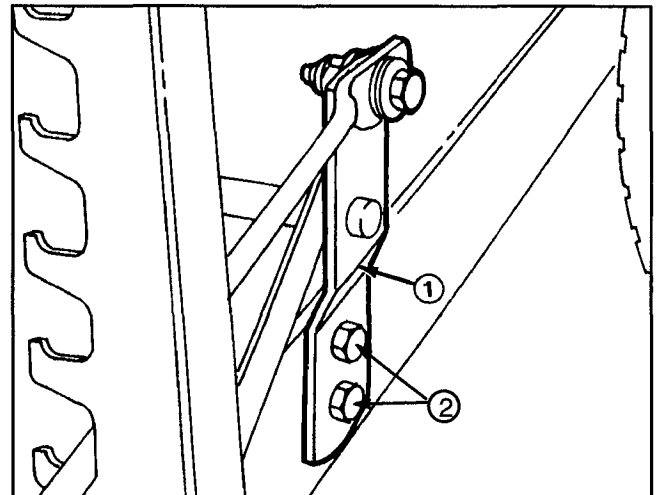

Figure 31
5. If blade tip height is not within 1/8 inch (3 mm), level cutting unit by loosening height-of-cut support bracket capscrews and raising or lowering the bracket (Fig. 31).